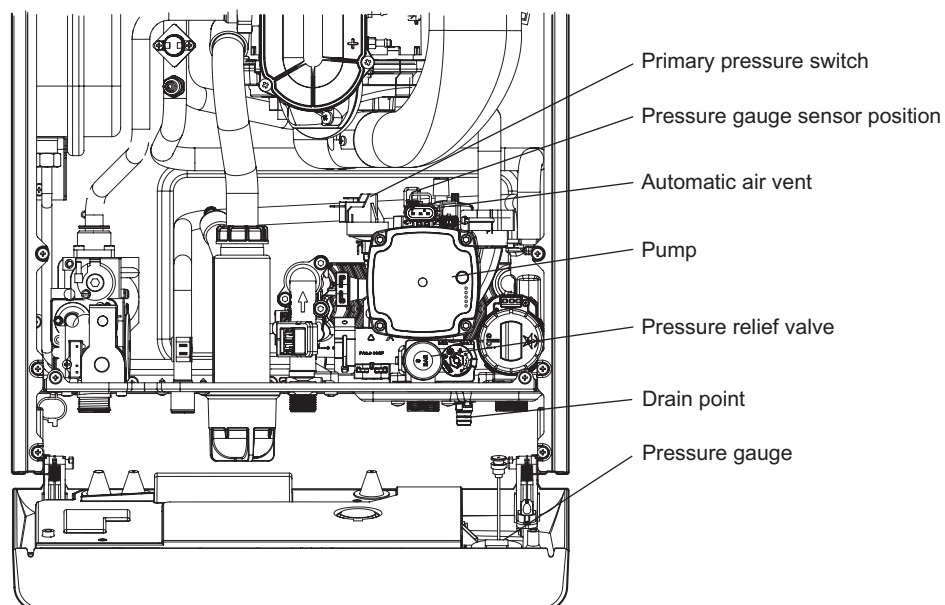

Fig. 7.5
1. The DHW sensor is positioned in the hot water outlet pipe to the left of the flow switch, see Fig. 7.5. Unplug the two connections and unclip the sensor from the pipe.
7.22 PRESSURE GAUGE - Fig. 7.5
7.24 AUTOMATIC AIR VENT - Fig. 7.5
7.25 PUMP - Fig. 7.5
2. Connect the plug to the new head. Ensure the pump is set to maximum (3) and re-assemble in reverse order.
7.26 PRIMARY PRESSURE SWITCH - Fig. 7.5
7.27 PRESSURE RELIEF VALVE - Fig. 7.5